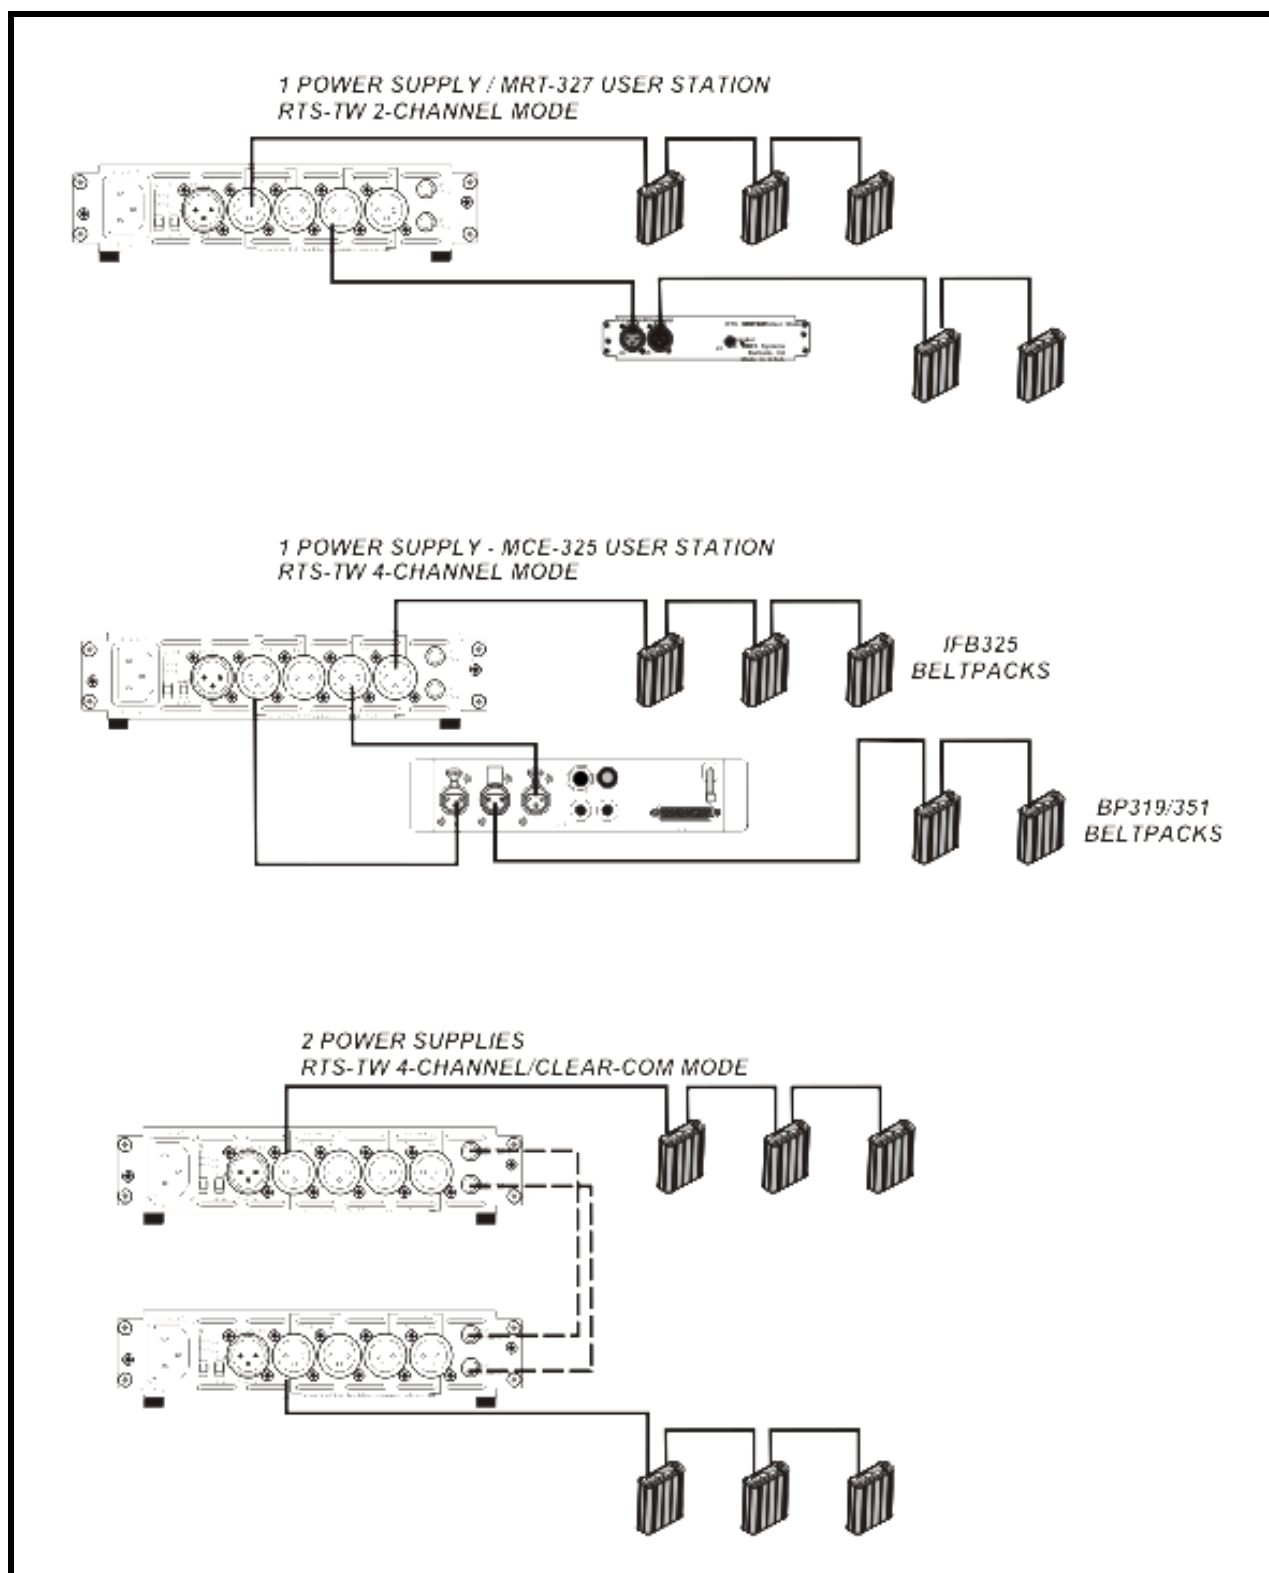

FIGURE 8. Configuration Diagrams
Connect intercom channels to the output connectors on the rear panel, see Figure 8, “Configuration Diagrams,” on page 14
4. Using Figure 8 on page 14, configure the **external devices** you want to use with the PS-20 unit.